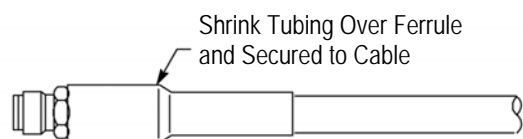

Figure 4
6. Slide the ferrule over the cable braid. Holding the cable in place, solder through the holes in the ferrule. Trim excess braid strands. Refer to Figure 4, Detail A.
7. Slide the shrink tubing over the ferrule until the ends are aligned. Using a heat gun, apply indirect heat to the shrink tubing until it has shrunk and is secured to the cable. Refer to Figure 4, Detail B.